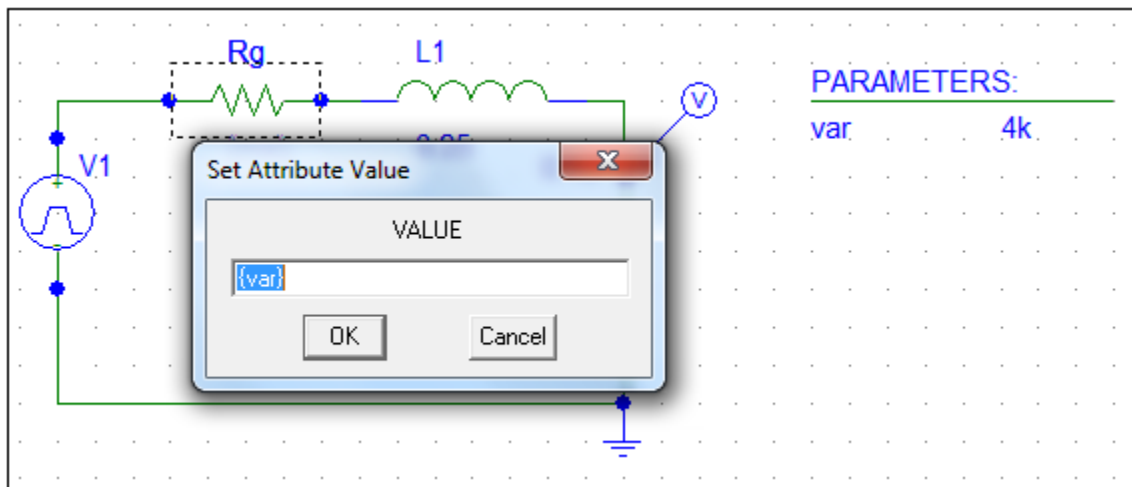

Fig 5.4: Set the attribute value for Rg.
- 4- Double click on the **value** of Rg and change it to **{var}** as in figure 5.4.